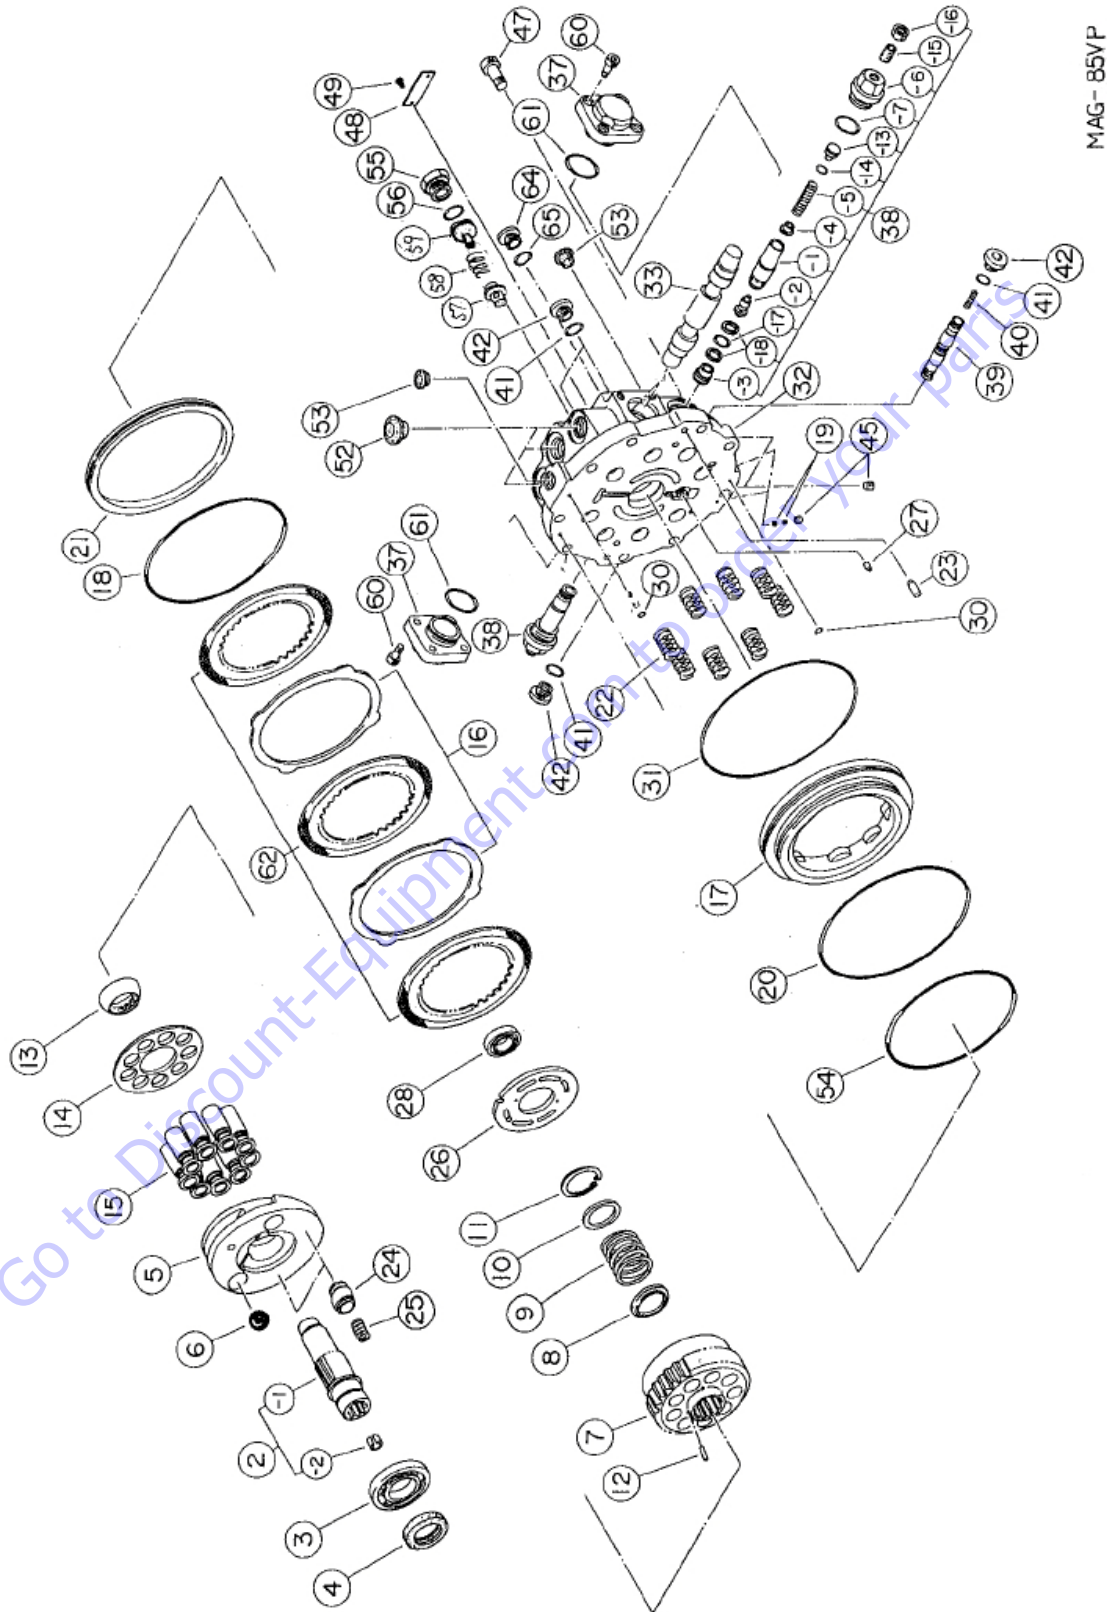

Figure 5-21. Exploded View of Motor
NOTE: (1) Refer to Figure 5-21. and Figure 5-22. exploded views.
Perform disassembly in accordance with the following procedures. Reference exploded views of assembly Figure 5-21. and Figure 5-22., if necessary.
Perform reassembly in accordance with the following procedures. Reference exploded views of assembly Figure 5-21. and Figure 5-22., if necessary.